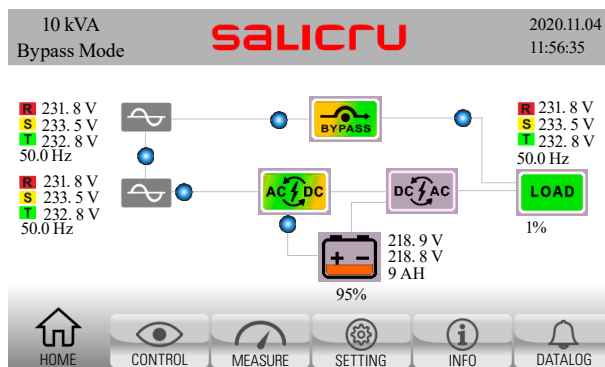

Fig. 56. Main screen in bypass mode. The power flow goes directly from the bypass input to the output, via the static bypass switch.
2. The loads switch to being supplied directly from the static bypass line. Check that the unit's synoptic corresponds to the one in Fig. 56 (unit in bypass mode).
11. The <3A> alarm "maintain is open" disappears. Check that the unit's synoptic corresponds to the one in Fig. 56 (unit in bypass mode).
- b. The UPS switches automatically from standby mode to bypass mode, the loads switch to being supplied directly from the static bypass line. Check that the alarm <OB> "EPO active" disappears. Also check that the unit's synoptic corresponds to the one in Fig. 56 (unit in bypass mode).